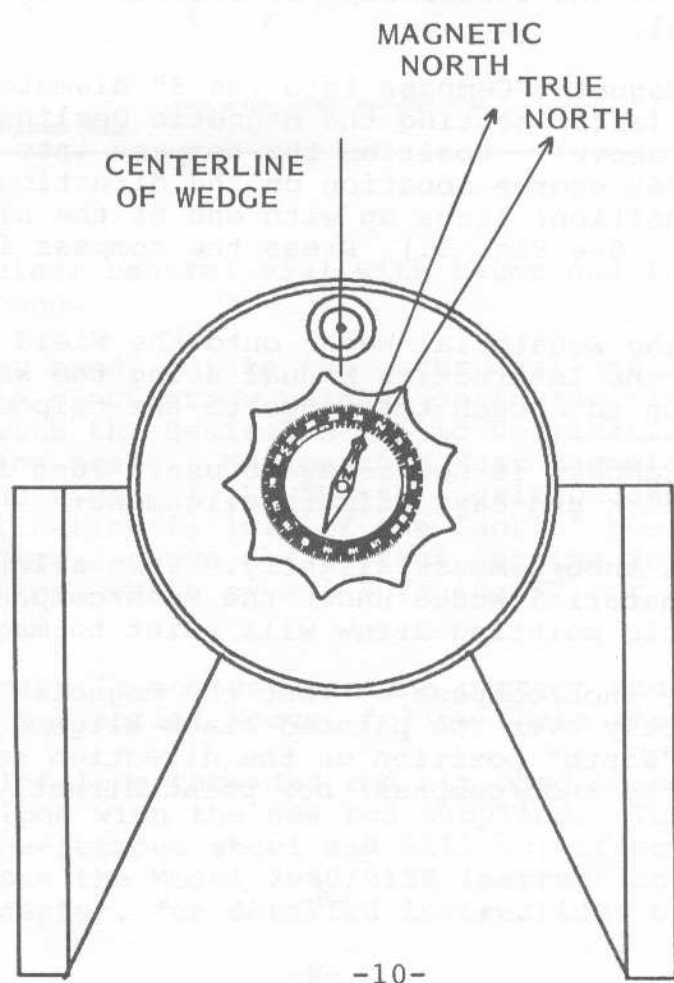

Fig. 5
2. Rotate the knob/compass so that the magnetic pointing arrow lies directly over the painted black alignment arrow (Fig. 5). The "North" position on the direction scale (and the point on the knob/compass) now point directly north.